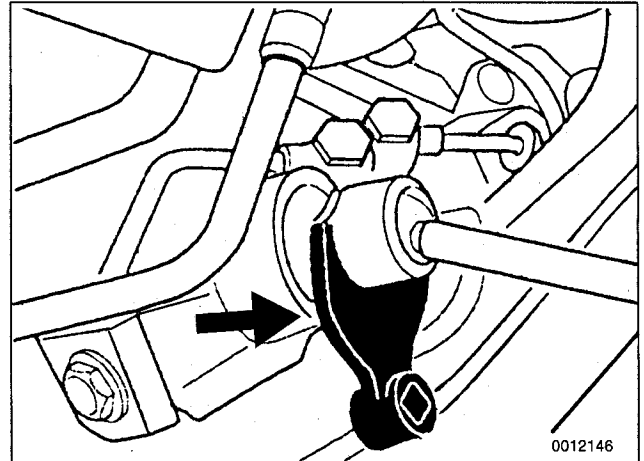

Fig. 10. Special tool (arrow) installed on inner tie rod end.
- Using special tool, unscrew inner tie rod end from steering rack. See Fig. 10.